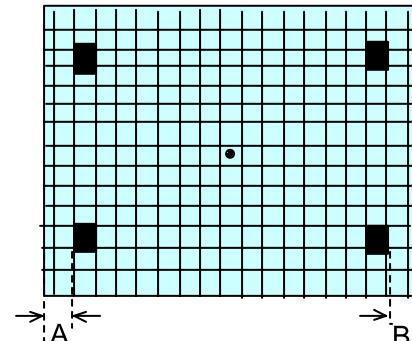

Fig.2-9 NTSC CROSS HATCH
2. Adjust and equalize the distances indicated with A (the left end to ■ mark) and B (the right end to ■ mark). (Fig. 2-9)